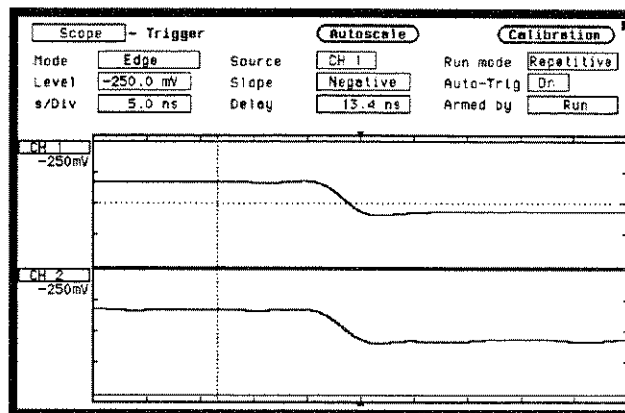

Figure 25-6. Negative Edge Of Waveform
4. Touch the TRIG key and toggle the **Slope** field in the Trigger Specification menu to **Negative**. Notice the negative-going edge of the waveform is now displayed as shown in figure 25-6.